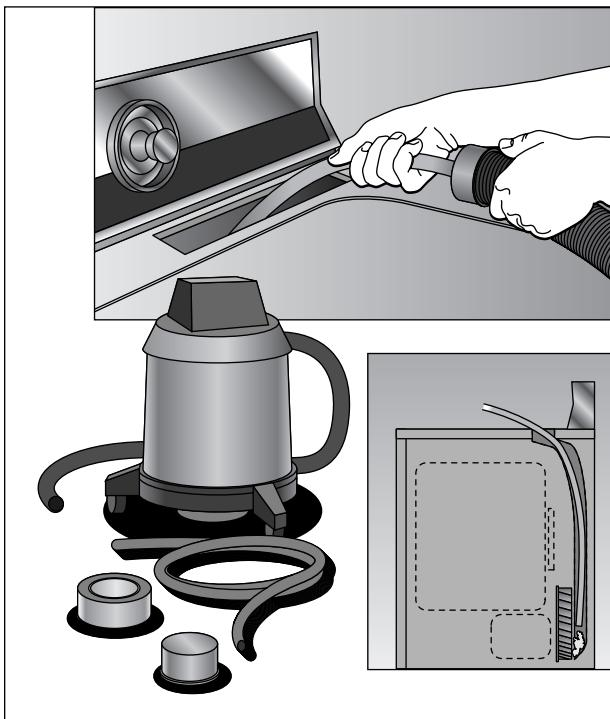

Figure 14-1:
- ✓ **Remove lint that accumulates at the bottom of the housing that contains the lint screen.** Construct a mini vacuum hose attachment using a short piece of rubber hose, the cap to an aerosol can, and some duct tape. The cap acts as an adapter that fits over the end of a wet/dry vacuum hose. Make a hole in the center of the cap the size of the outside diameter of the hose. Insert the hose snuggly into the hole and attach the two with duct tape. Attach the cap to the end of a wet/dry vacuum and insert the hose into the filter housing until it reaches the bottom (see Figure 14-1).